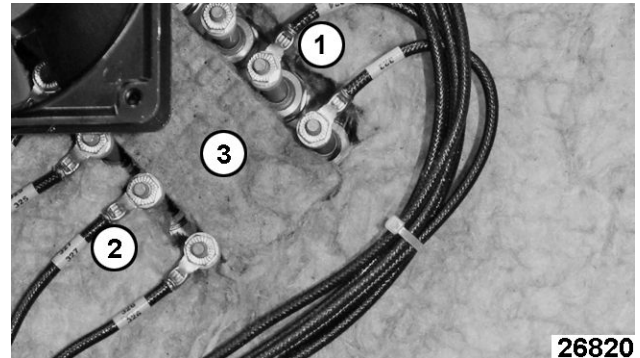

Fig. 97
- Outer Elements (1, Fig. 97).
- Inner Elements (2, Fig. 97).